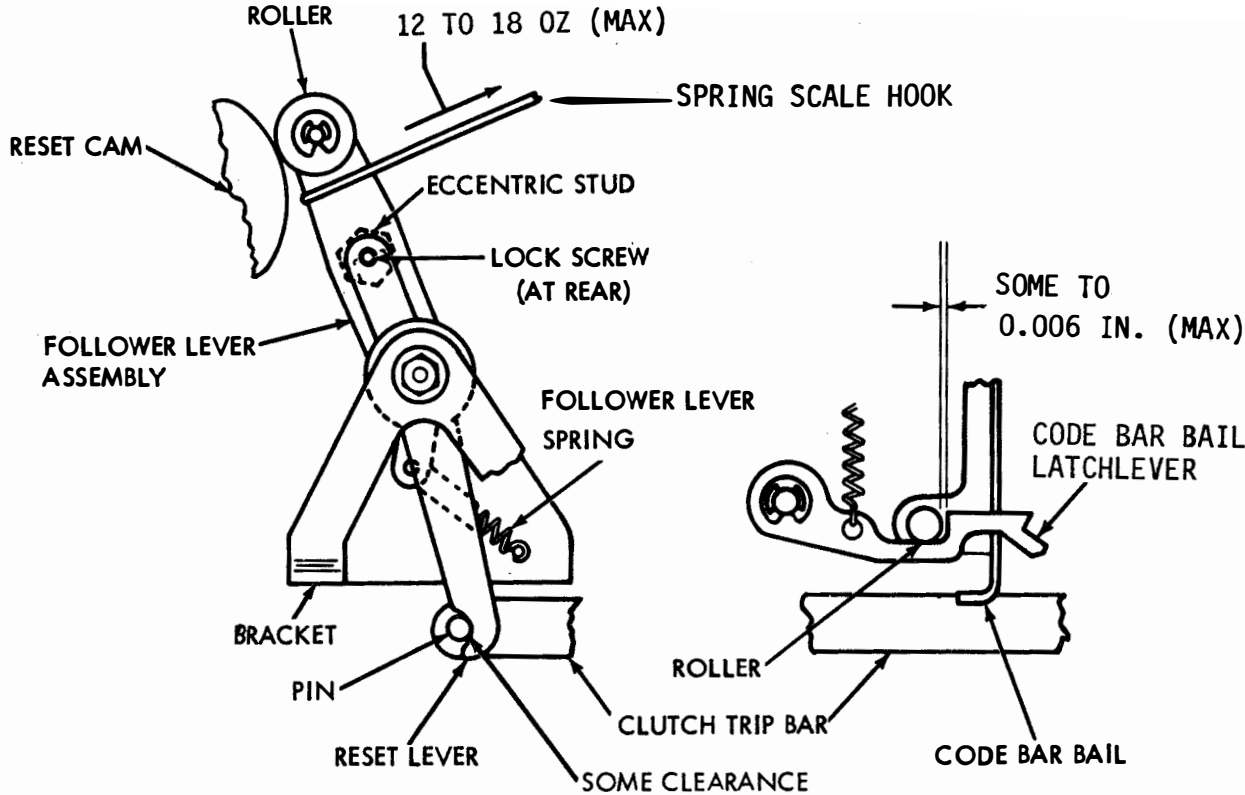

Figure 6-127. Follower Lever Spring and Code Bar Bail
(3) Follower Lever Spring. Adjust as follows:
- (a) Refer to Figure 6-127.
(4) Code Bar Bail. Adjust as follows: